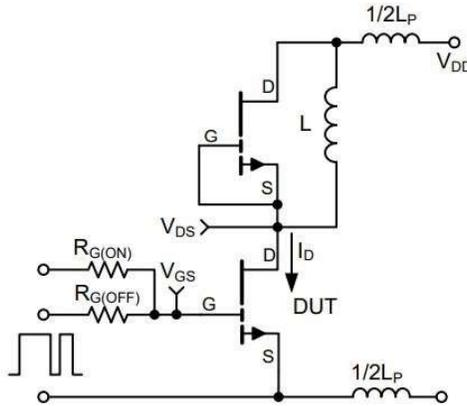

Figure 20: TDG100E90BEP Switching Loss Test Circuit
- (3) $C_{O(ER)}$ is the fixed capacitance that would give the same stored energy as C_{oss} while V_{DS} is rising from 0 V to the stated V_{DS}
- (4) $C_{O(TR)}$ is the fixed capacitance that would give the same charging time as C_{oss} while V_{DS} is rising from 0 V to the stated V_{DS} .
- (5) LP is the switching circuit parasitic inductance.
- (6) See Figure 20 for switching loss test circuit.